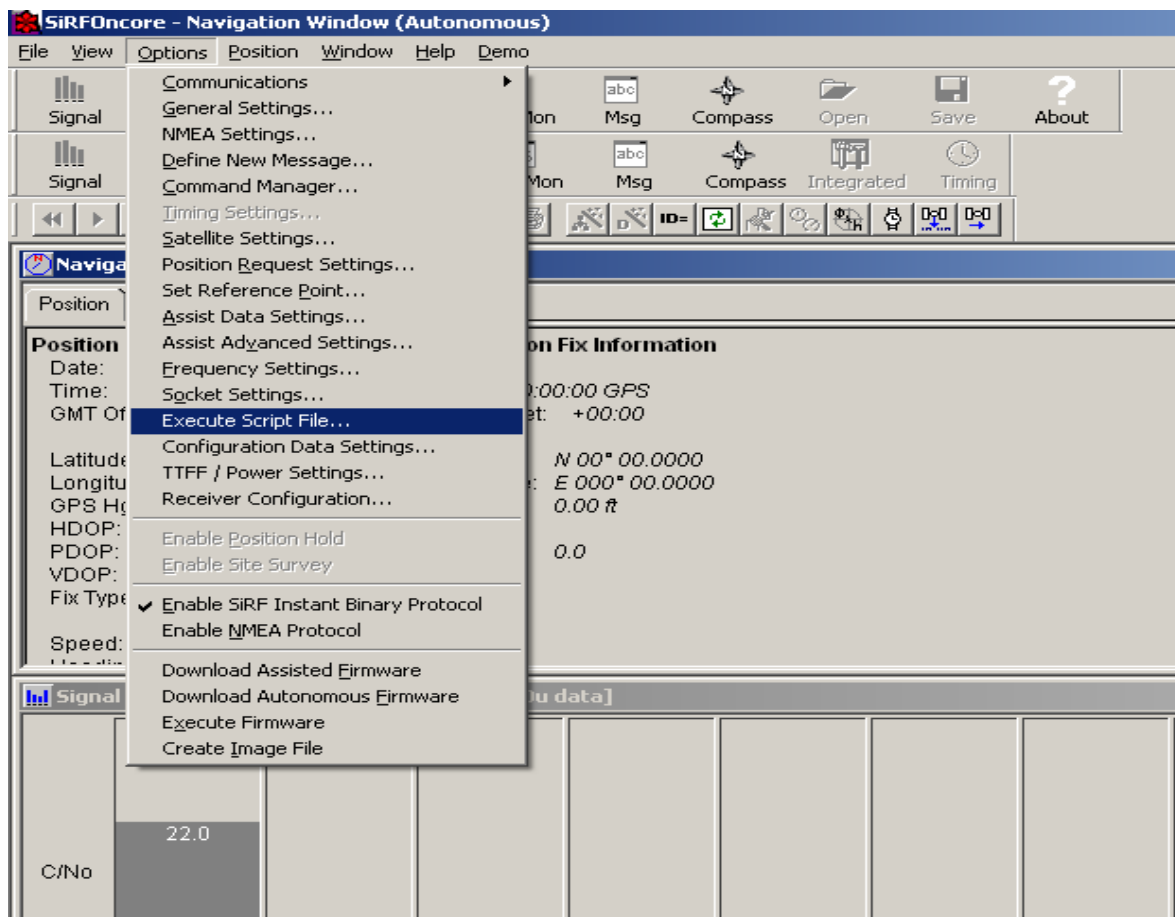

Figure 8 SiRFOncore Execute script file
2. Click on “**Execute Script File**” - (see figure 8)